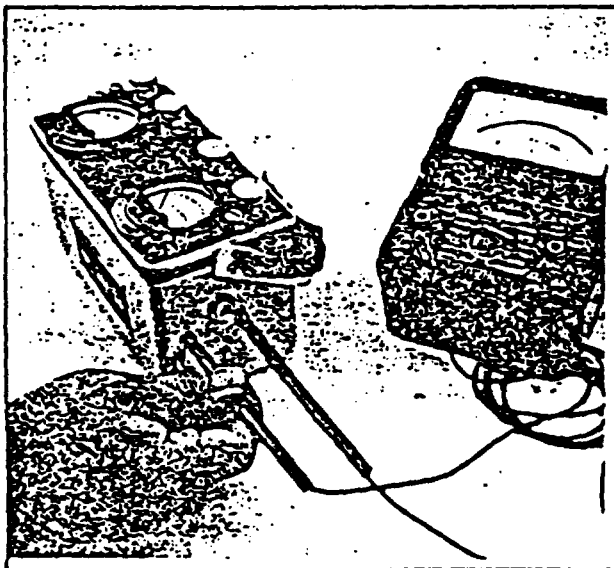

Figure 19: Checking power circuit for proper voltage (Section 8.4, Steps a and b)
8.4 Battery Replacement and Charger Check (Refer to Figures 19, 20)
(a) Obtain a Multimeter and place the range selector on the 10 volt scale. Connect the meter test probes across the instrument charging jacks as illustrated in Figure 19. With the instrument FUNCTION CONTROL in the "OFF" position, the Multimeter should indicate 5 volts.